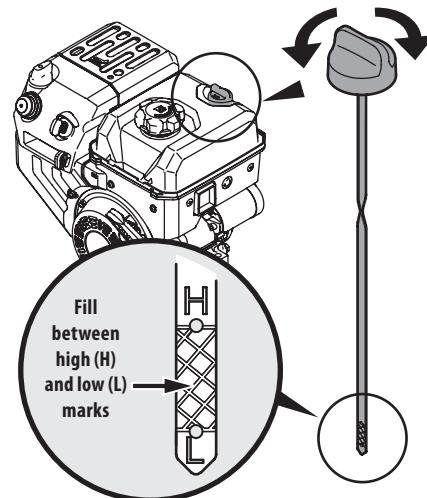

Figure 3-2
- Keep oil level between "H" and "L" marks on dipstick. See "Figure 3-2".
1. Remove the oil filler cap/dipstick and wipe the dipstick clean. See "Figure 3-2".
3. Remove the oil filler cap/dipstick. If the level is low, slowly add oil until oil level registers between high (H) and low (L), "Figure 3-2".
4. Loosen and remove the oil fill cap/dipstick from the oil filler tube. Note the oil level, if oil reading on the dipstick is below the "L" mark, slowly add oil to reach the "H" level. See "Figure 3-2".